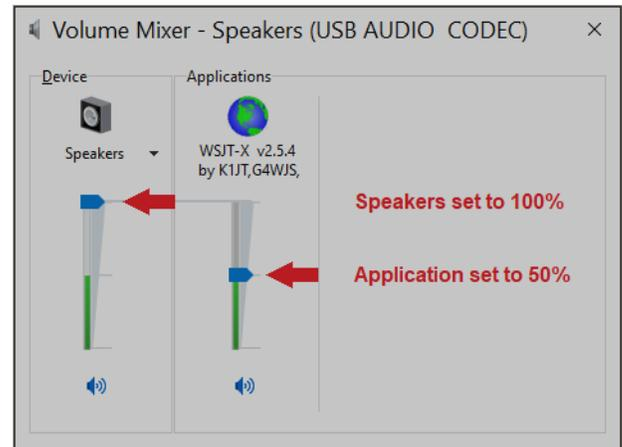

Figure 9 - Volume Mixer adjustment
- You should now see a volume mixer window similar to the one shown below in Figure 9. Note that the Applications volume control will display the name of the communication program that you are using or something similar (we've used the WSJT-X program for our example). If you do not see the Applications volume control, then you will need to close this window, put your program in Transmit and then re-open the window. If you still do not see the Applications volume control, then double-check that your communication program is properly configured and actually in Transmit (see "Communication Program Setup" on page 7).
- Adjust the Speakers and Applications volume controls as shown above in Figure 9. The Speakers volume control **MUST** be set to 100%, and the Applications volume control **MUST** be set to 50%. ***If these are not set correctly then the Signalink USB's PTT LED will NOT turn on and you will be unable to Transmit.***